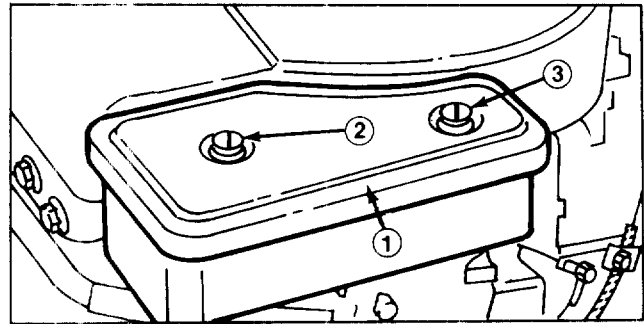

Figure 16
2. Remove air cleaner stud, screw and cover. Replace cover gasket if damaged (Fig. 16).
1. Remove the screws holding air cleaner in place and lift complete air cleaner assembly off carburetor (Fig. 16).